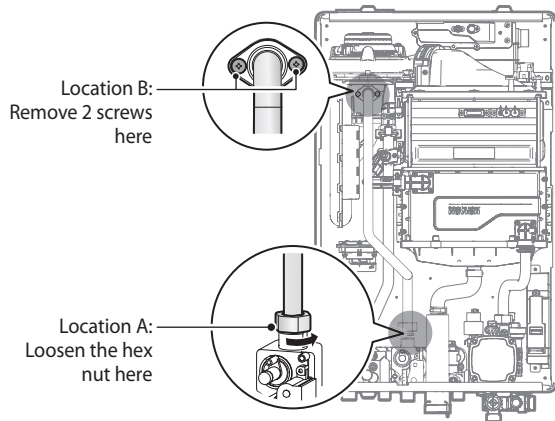
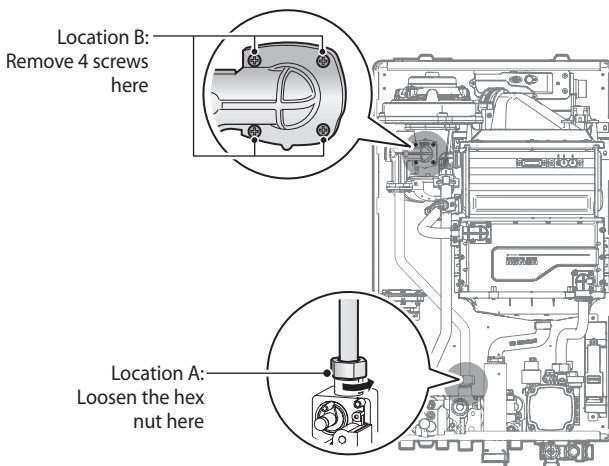

Figure 3-1. Detaching Gas Inlet Pipe from Gas Valve and Fan Motor Assembly (NCB-24/28/34LDWE)
Figure 3-2. Detaching Gas Inlet Pipe from Gas Valve and Fan Motor Assembly (NCB-40LDWE)
9. Loosen the hex nut at location A - the connection above the gas valve where it connects to the pipe. See Figure 3-1 and Figure 3-2 for reference. Once the hex nut is loose, carefully separate the pipe from the gas valve.